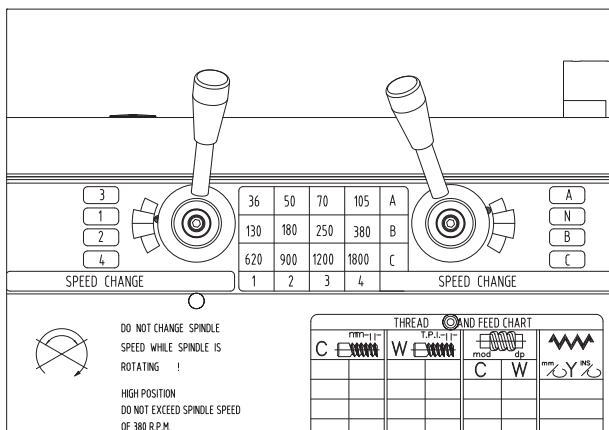

Figure 16. Headstock range lever.
- Move the spindle range lever so that the indicator points to the A. (Figure 16)
- Rotate the spindle speed lever so that the indicator points to the 1. (Figure 16)